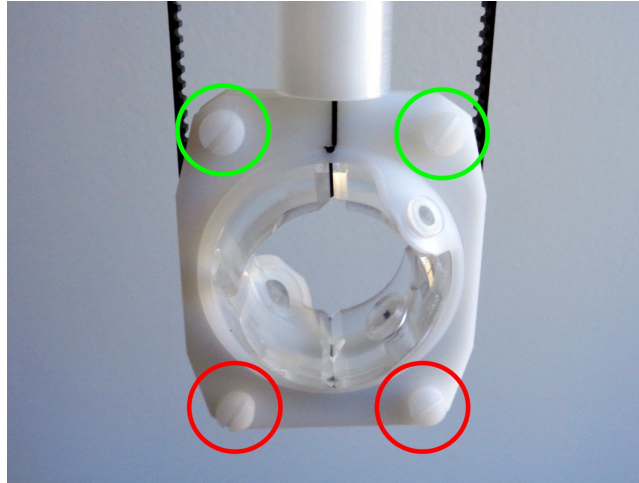

Figure 11: 3D shell
5. Remove four screws with nuts marked by green and red circles in Fig. 11. Two bottom screws have also plastic washers. Set aside white rectangular plate.
2. Cover the shell with rectangular plate and carefully screw two upper plastic screws (marked by green circles in Fig. 11).
4. Gently screw two bottom plastic screws marked on Fig. 11 by red circles. Do not forget to use washers to keep entire system in correct position.